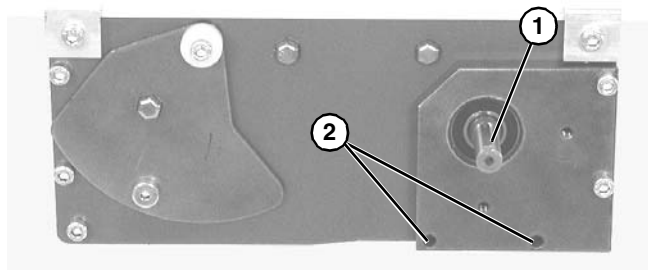

Figure 7
- Locate drive output shaft (**Figure 7, item 1**) and remove two (2) screws (**Figure 7, item 2**).